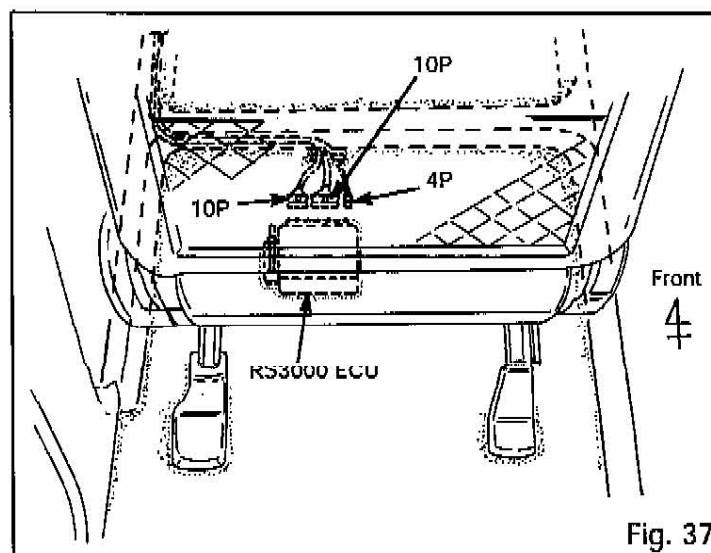

Fig. 37
- (4) Plug in the one 4P and two 10P connectors into the ECU. Fig 37